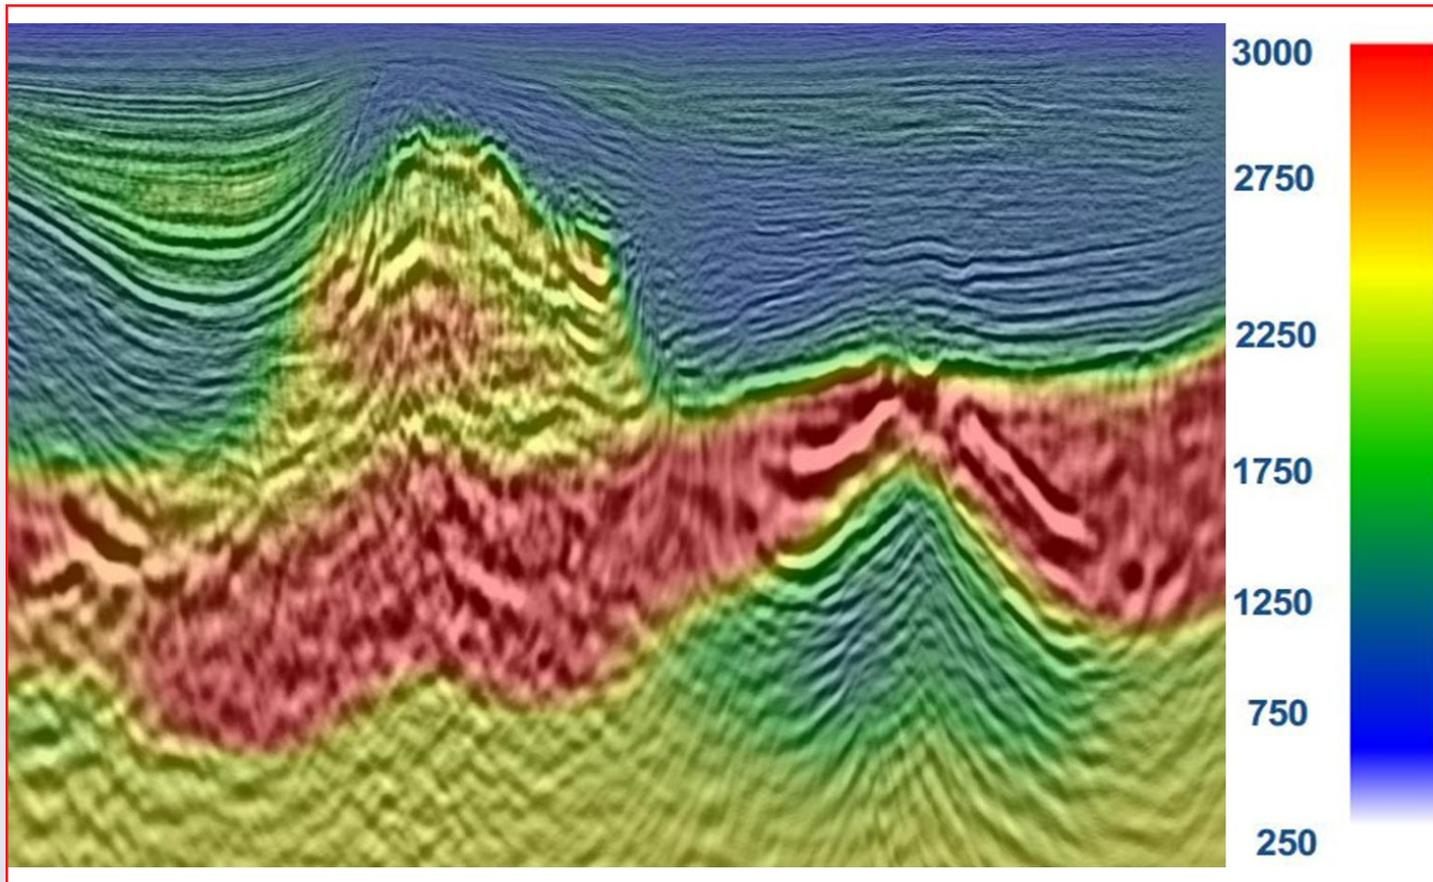

Figure 2: Initial PS depth-migrated section with Vs model overlaid.
**Figure 2** shows a depth-migrated PS section with color overlay of the initial  $V_s$  model. The image is of very good quality given that this is the initial model. Large velocity contrasts and complicated structure are clearly seen.